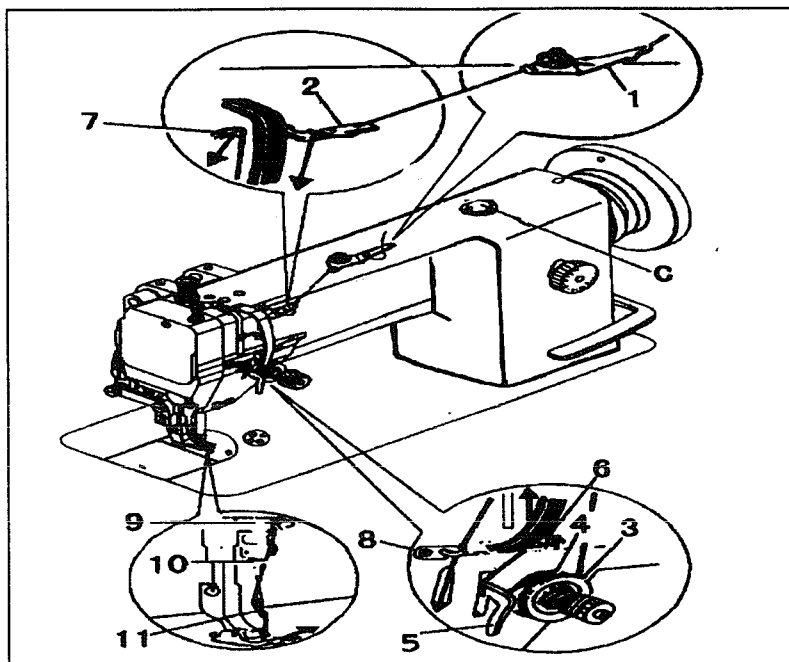

Fig. 7
## 8. THREADING ( Fig.7 )
To thread the needle thread, raise needle bar to the upper end of its stroke, lead the thread from spool and perform threading as shown in Fig.7 . To draw the bobbin thread, hold the end of the needle thread and turn the balance wheel to lower the needle bar and then to lift it to its highest position. Pull the needle thread and the bobbin thread is drawn up. Put the ends of needle thread and bobbin thread frontward under presser foot.
2) When the wound thread layer does not present a cylindrical shape as shown in Fig.7 ( a ), loosen Set Screw ( B ) of bobbin winder tension bracket and slide Bracket ( C ) leftward or rightward. If thread is wound as shown in Fig.7 ( b ), move the bracket rightward, but if thread is wound as shown in Fig.7 ( c ), move the bracket leftward.